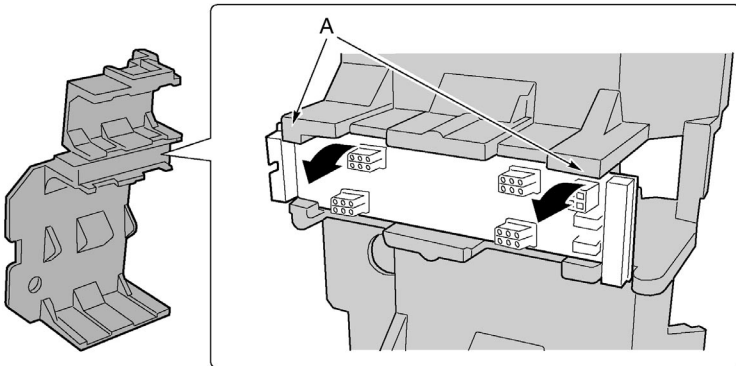

Figure 53 - Removing a fan distribution board
- 4 Gently press outward on two corners of the foam (Figure 53, A) to spread open the fan distribution board slot in the foam fan assembly, rotate the edge of the board free, and lift the board out of the foam air baffle.